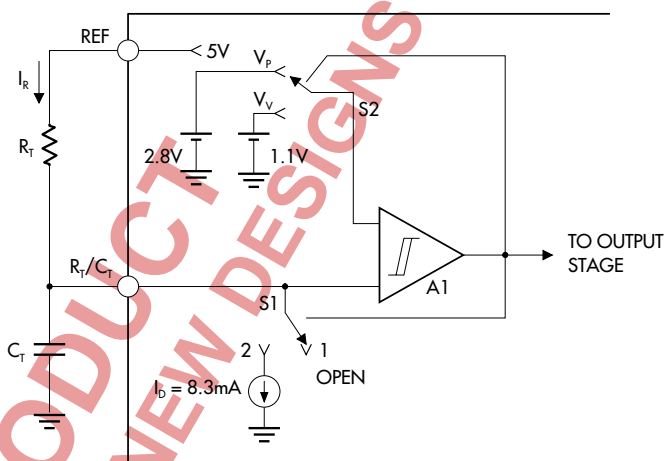

FIGURE 25 — SIMPLIFIED SCHEMATIC OF OSCILLATOR SECTION
The oscillator circuit is designed such that discharge current and valley voltage are trimmed independently. This results in more accurate initial oscillator frequency and maximum output duty cycle, especially important in LX1552/53 applications. The oscillator is programmed by the values selected for the timing components ( $R_T$ ) and ( $C_T$ ). A simplified schematic of the oscillator is shown in Figure 25. The operation is as follows; Capacitor ( $C_T$ ) is charged from the 5V reference thru resistor ( $R_T$ ) to a peak voltage of 2.7V nominally. Once the voltage reaches this threshold, comparator (A1) changes state, causing (S1) to switch to position (2) and (S2) to ( $V_V$ ) position. This will allow the capacitor to discharge with a current equal to the difference between a constant discharge current ( $I_D$ ) and current through charging resistor ( $I_R$ ), until the voltage drops down to 1V nominally and the comparator changes state again, repeating the cycle. Oscillator charge time results in the output to be in a high state (on time) and discharge time sets it to a low state (off time). Since the oscillator period is the sum of the charge and discharge time, any variations in either of them will ultimately affect stability of the output frequency and the maximum duty cycle. In fact, this